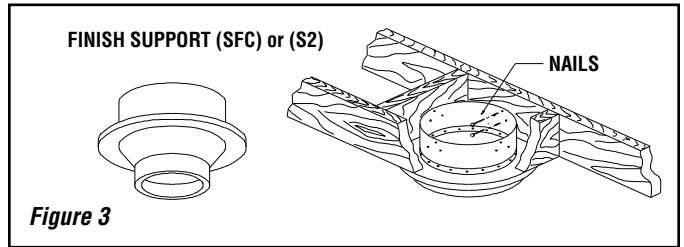

Figure 3
**Step 3.** From below push the finish support into the framed hole. Nail the support to the framed box using (12) 3" spiral nails (see figure 3).